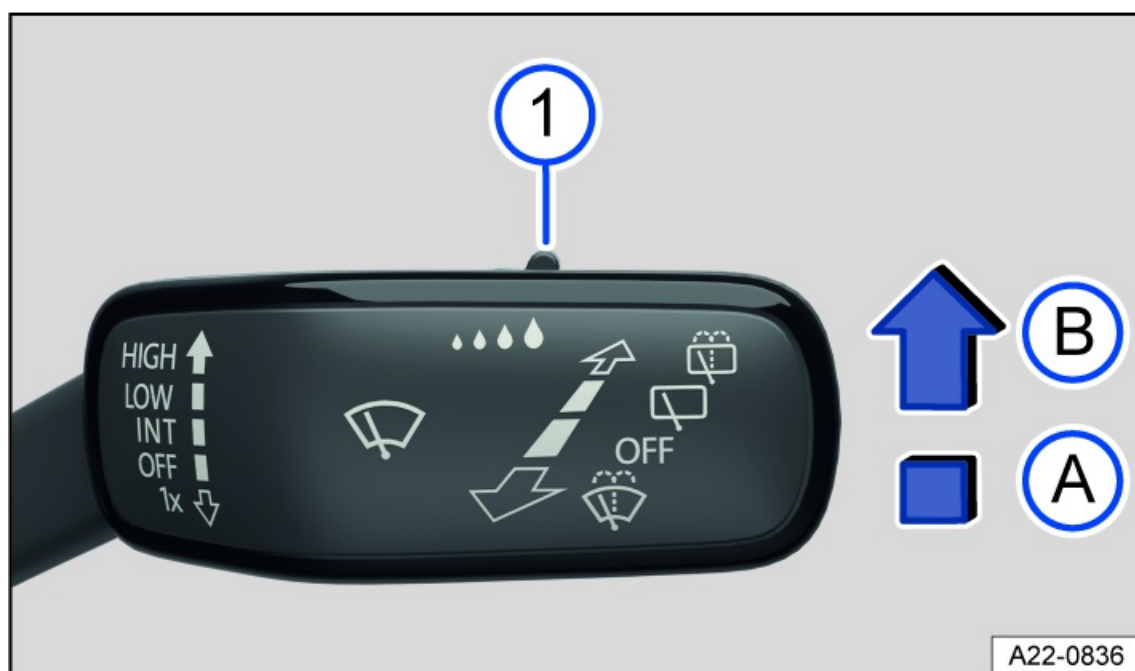

Fig. 106 On the right side of the steering column: windshield wiper lever.
1. Press the lever into the desired position *fig. 106*.
The sensitivity of the rain/light sensor can be manually adjusted with the switch in the windshield wiper lever fig. 106 , ⇒